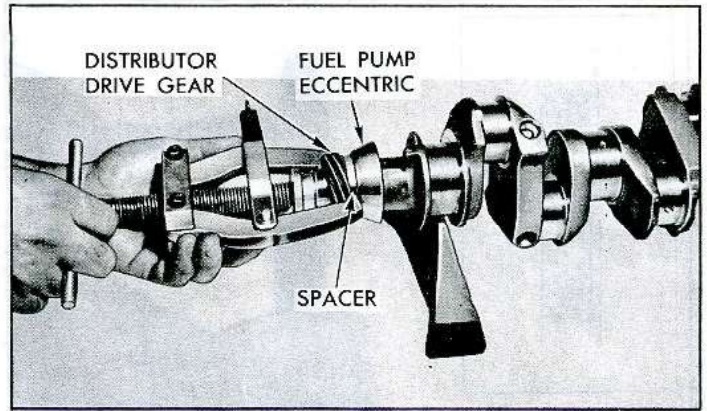

Fig. 119—Removing Distributor Gear
1. Remove distributor drive gear with Tool J-7112-1 with adapter Tool J-7112-2 (fig. 119).